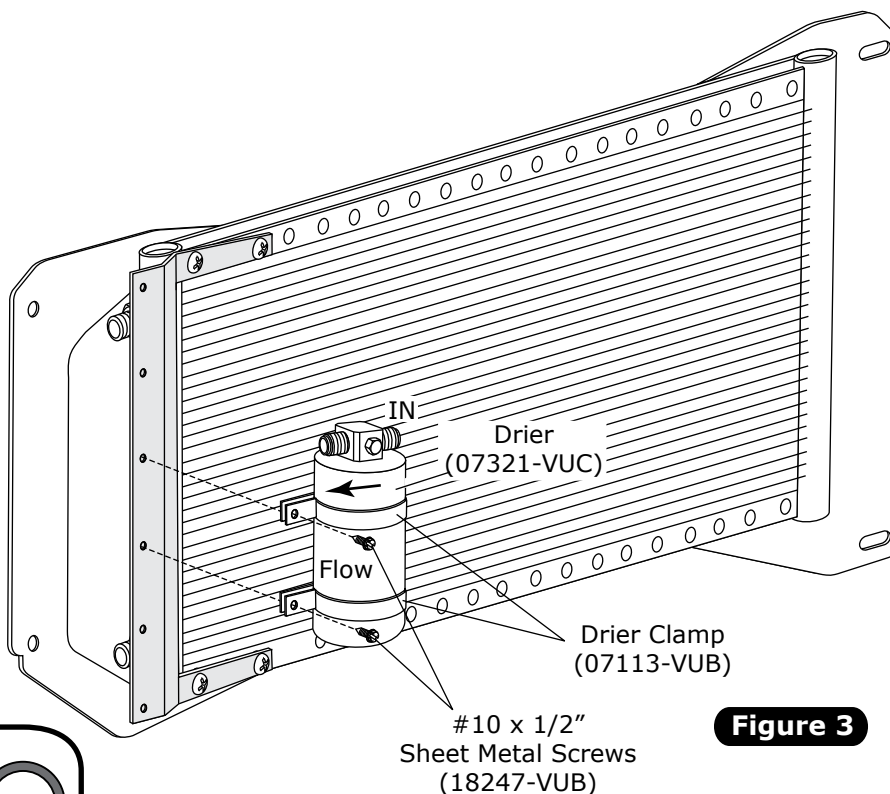

Figure 3
1. Place drier clamps around drier as shown in Figure 3, below, and secure drier to drier bracket using (2) #10 x 1/2" sheet metal screws.